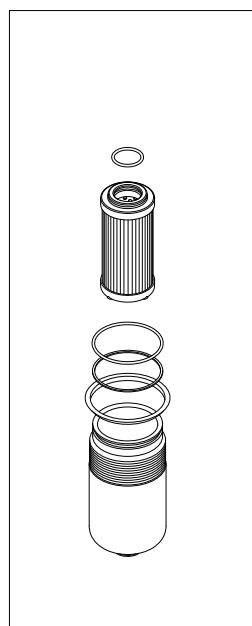

fig. 13
- (Fig. 13) Fit #1: the anti-extrusion ring and #2: the O-ring in the bowl groove, insert the O-ring in the filter element cap